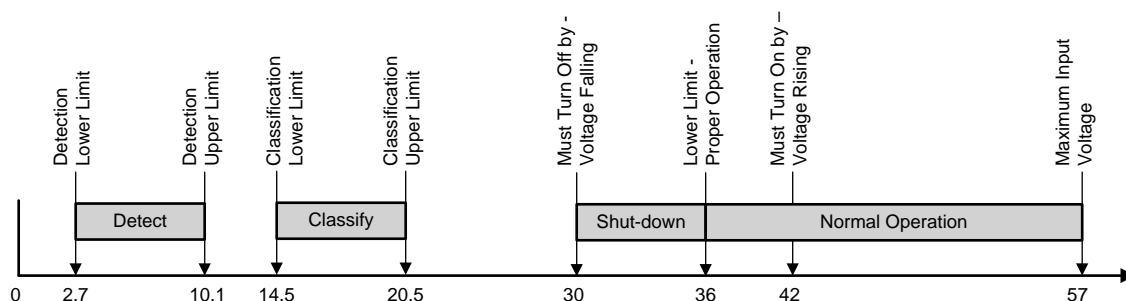
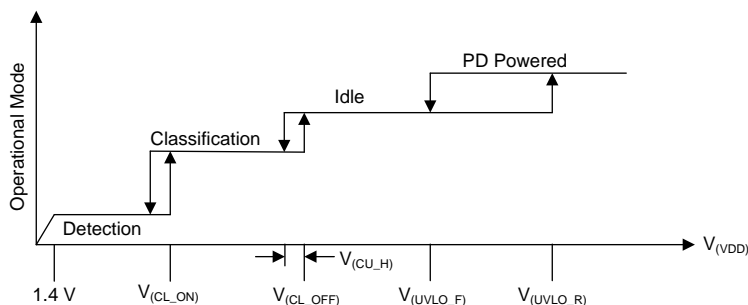

Figure 11. IEEE 802.3 PD Voltage Limits
Figure 12. Threshold Voltages
The TPS2376-H incorporates an undervoltage lockout (UVLO) circuit that monitors line voltage to determine when to apply power to the downstream load and allow the PD to power up. The IEEE 802.3af specification dictates a maximum PD turn on voltage of 42 V and a minimum turn-off voltage of 30 V shown in Figure 12. The UVLO pin provides the flexibility to adjust the turn on and turn off to the IEEE 802.3af limits, or a custom set. Design the turn-on for 39.5 V if a design which uses the IEEE 802.3af limits is desired.
The IEEE 802.3af specification defines a process for safely providing power over an ethernet cable when a capable device is connected, and then removing power if it is disconnected. The process proceeds through three operational states: detection, classification, and operation. An unterminated cable is not powered. The PSE periodically probes the cable with low voltage, looking for a 25 kΩ signature; this is referred to as detection. The low power levels used during detection are unlikely to cause damage to devices not designed for PoE. If a valid powered device (PD) signature is present during detection, then the PSE may optionally inquire about the amount of power the PD requires; this is referred to as classification. The PD may return a default full-power signature, or one of four other defined choices. In a high-power system, class may not be required, or the levels may be redefined to suit that particular system. The PSE may use the class power to determine if it has adequate power to operate this device, and later to determine if a device is using more power than it requested. At this point in the process, the PSE may choose to power the PD. The PSE output is protected against shorts and overloads when the PD is powered. The maintain power signature (MPS) is presented by the powered PD to assure the PSE that it is present. The MPS is either a minimum dc current, a maximum ac impedance, or both. When the MPS disappears, the PSE removes power and returns to its initial state. Figure 11 shows the operational states as a function of PD input voltage range as defined in IEEE 802.3af.
In order to implement the defined PoE functions shown in Figure 11, the TPS2376-H has a number of internal comparators with hysteresis for stable switching between the various states. Figure 12 relates the parameters in the Electrical Characteristics section to the PoE states. The mode labeled *idle* between classification and PD powered implies that the DET, CLASS, PG, and RTN pins are all high impedance.
The classification process applies a voltage between 14.5 V and 20.5 V, for a maximum of 75 ms, to the input of the PD, which in turn draws a fixed current set by $R_{(CLASS)}$. An 802.3af PSE measures the PD current to determine which of the five available classes shown in Table 1 that the PD is signaling. The total current drawn from the PSE during classification is the sum of bias currents and current through $R_{(CLASS)}$. The TPS2376-H disconnects $R_{(CLASS)}$ at voltages above the classification range to avoid excessive power dissipation see Figure 11 and Figure 12.